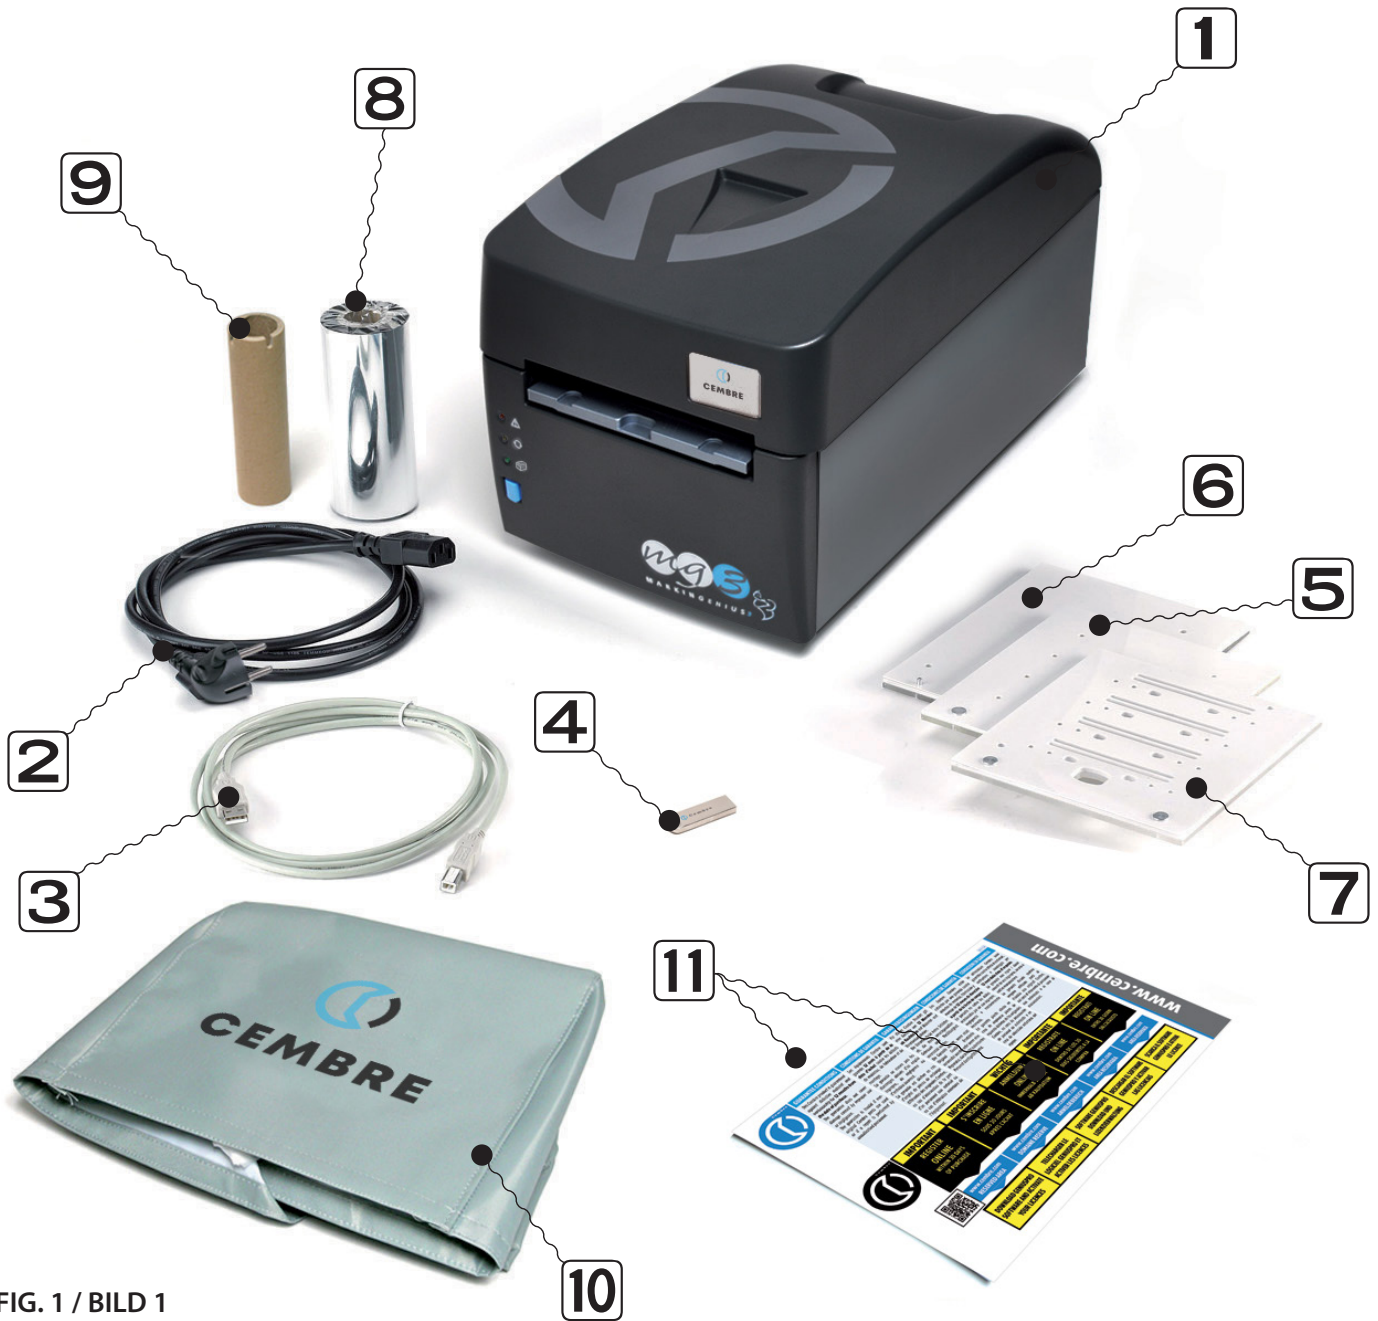

FIG. 1 / BILD 1
**Markingenius "MG3" package comprises** (See FIG. 1 page 2):